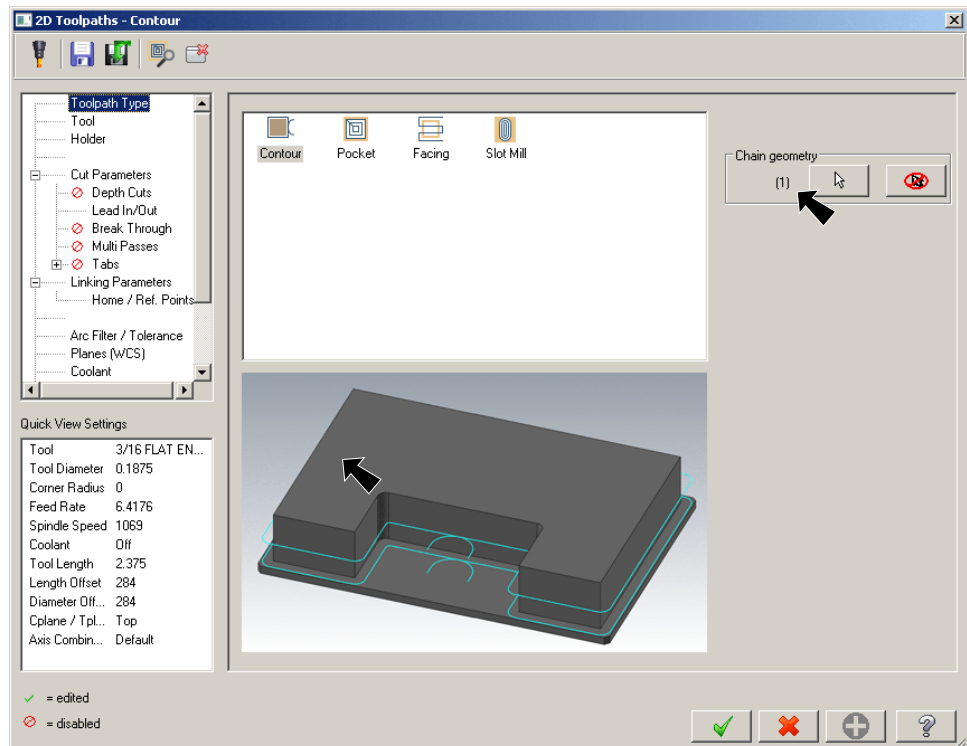

Fig. 74
Step 6. In the 2D Toolpaths Contour dialog box confirm **1 Chain** is selected, **Fig. 74**.